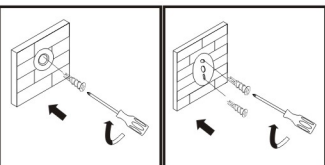

FIGURE 3
- Install plastic screw at each pencil mark made. (FIGURE 3)